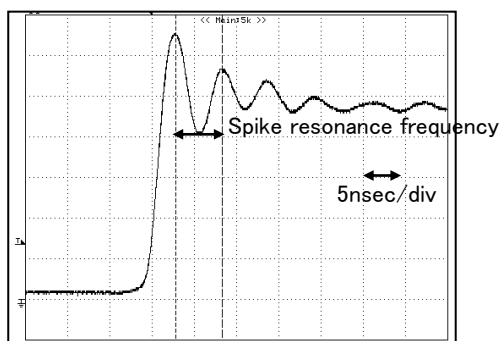

Figure 73. PWM Output Waveform
- (a) Measure the spike resonance frequency " f_1 " of PWM output waveform (when rising) by using FET probe at the OUT terminal. (Figure 73)